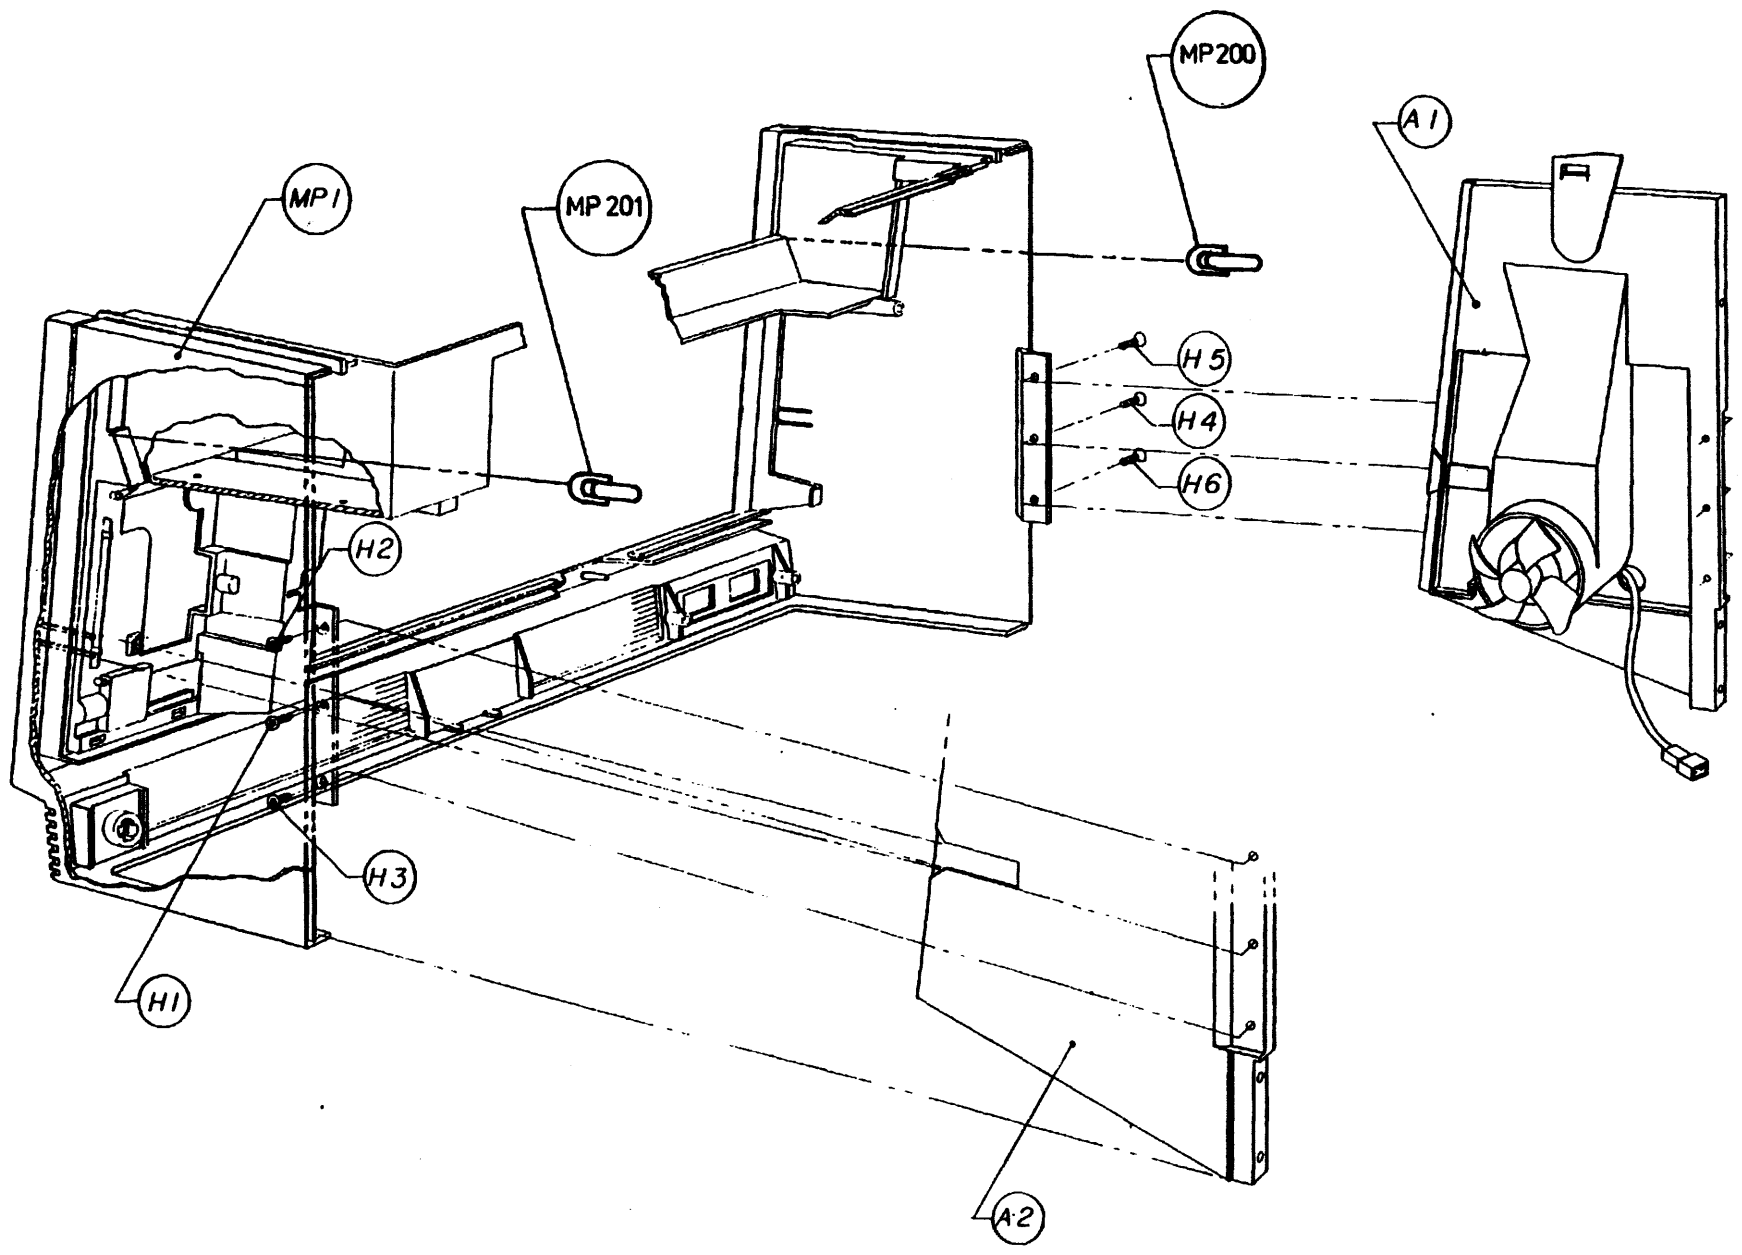

Figure 9-1. Front Case Assembly Exploded View
* The foam is not shown in figure 9-1, but it covers the air vent slots at the bottom of the front case. Use industrial tape (0460-1797) or equivalent to secure the foam.